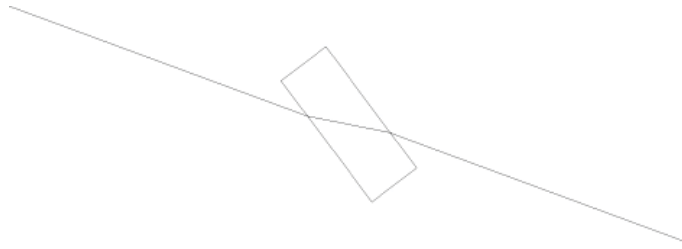

Fig 27 Beam path inside the transducer crystal
11. Check the beam path inside the crystal with an IR-viewer and correct the horizontal Y-position of the crystal ([11] in Fig. 26) to get the beam to the centre (see Fig. 27).